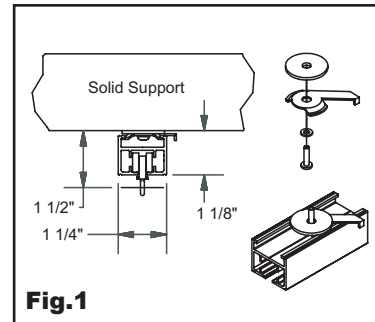
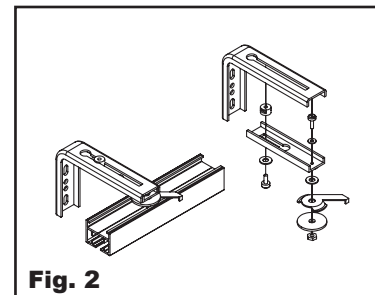

Fig. 1
Fig. 2
1. Mount bracket hardware to the ceiling (**Fig. 1**) or wall (**Fig. 2**), depending on your specific application.